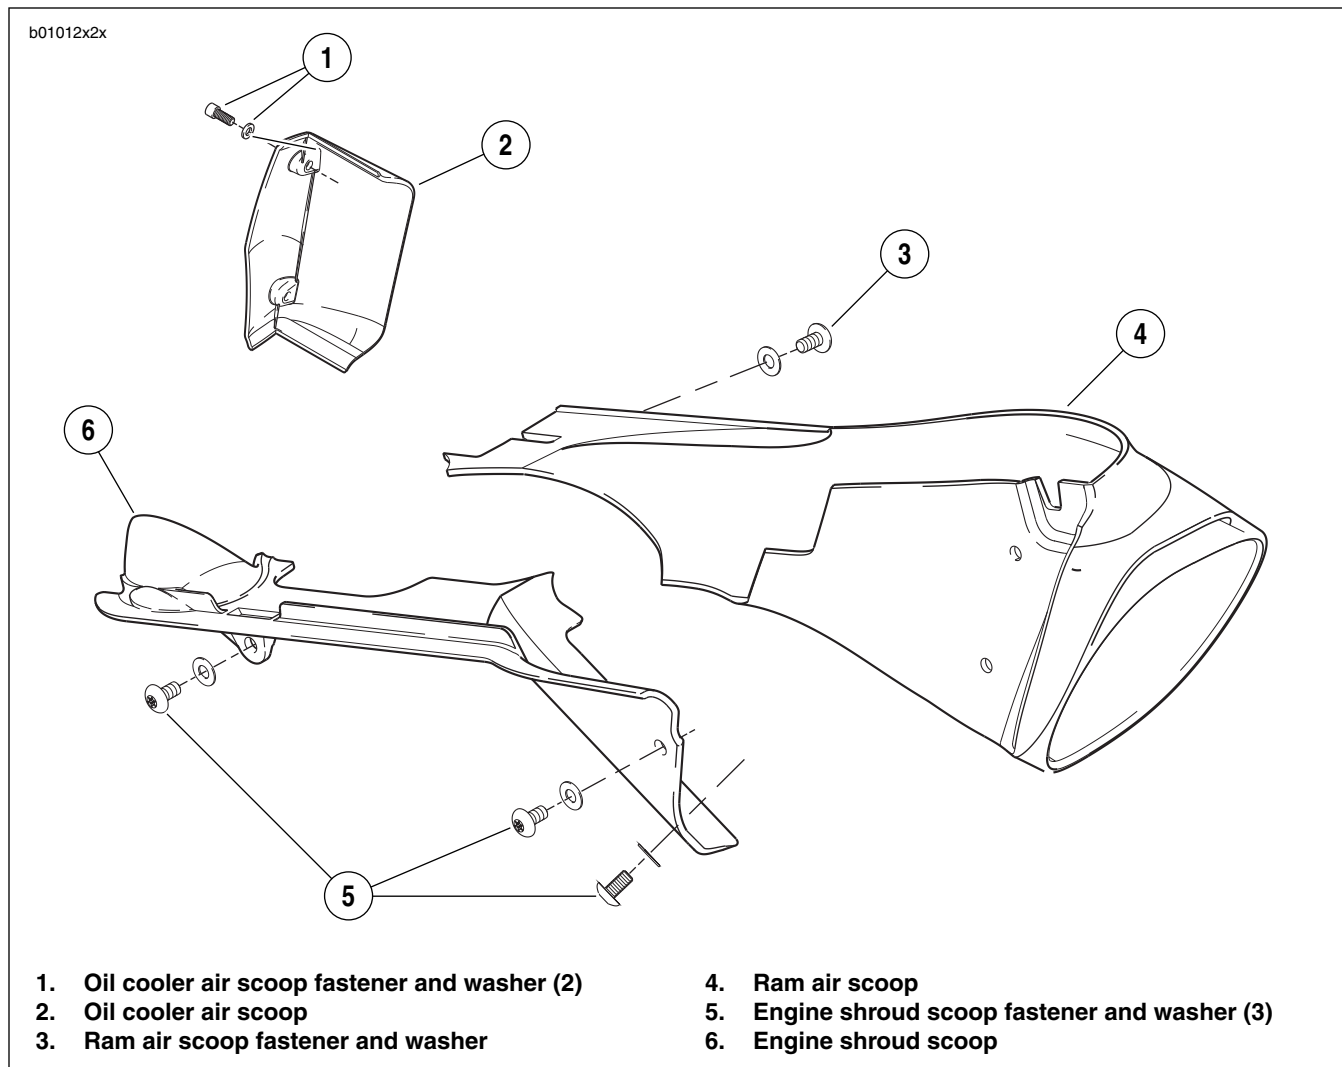

Figure 2-119. Ram Air Scoop, Engine Shroud, Oil Cooler
1. See Figure 2-119. On left side of bike, locate ram air scoop (4).
2. Remove three ram air scoop fasteners (3).
3. Remove ram air scoop (4).
1. See Figure 2-119. Position ram air scoop (4).
2. Install ram air scoop (4) with three fasteners (3). Tighten to 12-36 **in-lbs** (1-4 Nm).
1. See Figure 2-119. On right side of bike, locate engine shroud air scoop (6).
2. Remove three engine shroud air scoop fasteners (5).
3. Remove engine shroud air scoop (6).
1. See Figure 2-119. Position engine shroud air scoop (6).
2. Install engine shroud air scoop (6) with three fasteners (5). Tighten to 12-36 **in-lbs** (1-4 Nm).
1. See Figure 2-119. On left side of bike, locate oil cooler air scoop (2).
2. Remove two oil cooler air scoop fasteners (1).
3. Remove oil cooler air scoop (2).
1. See Figure 2-119. Position oil cooler air scoop (2).
2. Apply LOCTITE 272 (red) to oil cooler air scoop fasteners (1) and tighten to 48-72 **in-lbs** (5.4-8 Nm).